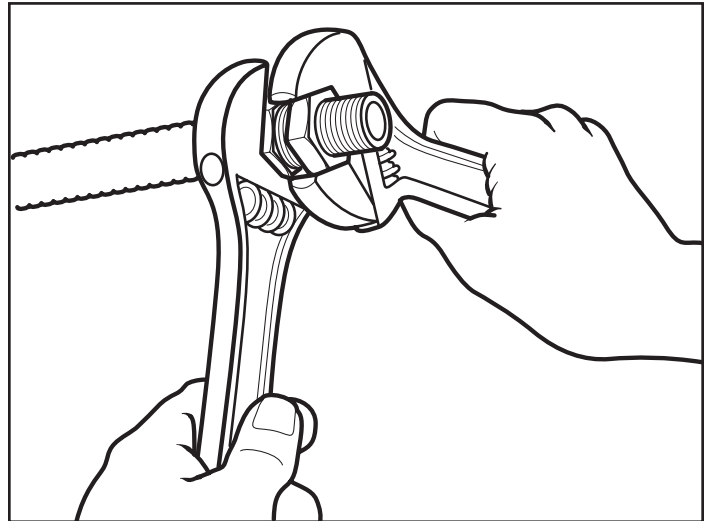

Figure: 4-6
5. FINAL TORQUE: Tighten nut and adapter to the torque values shown in Table 4-4. When a torque wrench is not available, use the following method: Tighten nut and adapter as though you were making up a flared tubing joint. Note relation between hex flats at this point and continue to tighten for two additional hex flats (one-third turn) to obtain required torque and final leak-tight seal. Figure: 4-6